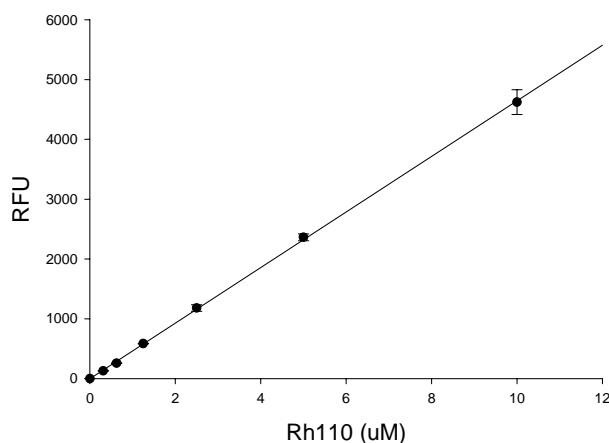

Figure 1. The Rh110 reference standard calibration curve.
- Plot Rh110 fluorescent reference standard as RFU (relative fluorescent unit) versus concentration as **Figure 1**.